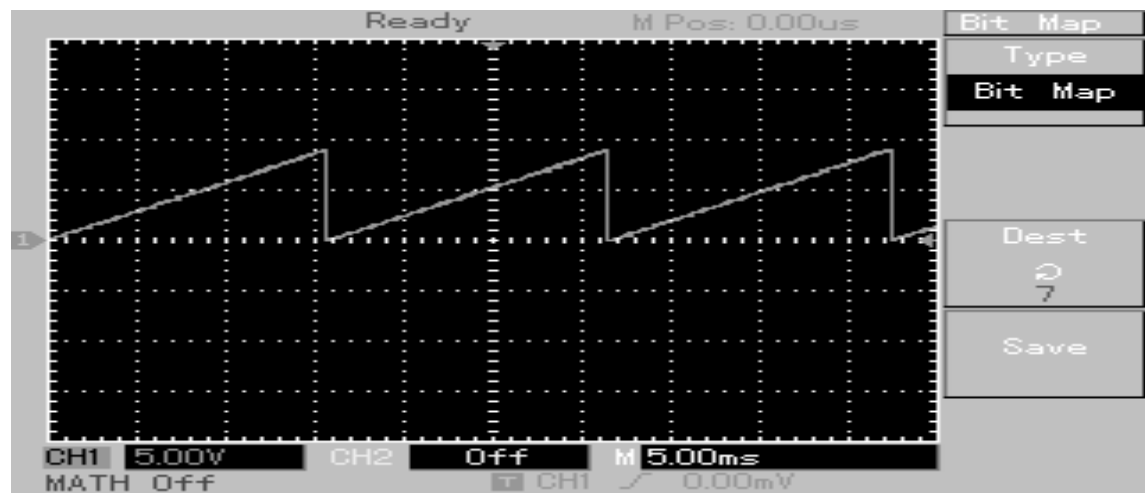

FIGURE-3.4
- 3) If waveform shown in FIGURE-3.4 is not coming then adjust the POT PR5 (offset adjust) until you will get a ramp of nearly 9.5V.